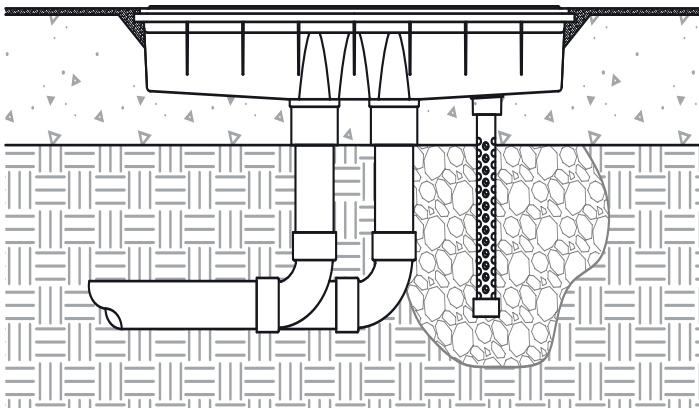

Figure 12
4. Backfill the excavated area with gravel before the shotcrete or gunite process begins. This will ensure less restricted water flow with minimal dirt contamination (Figure 12).